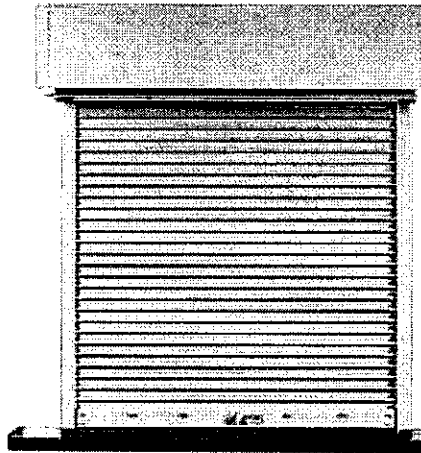

Figure 4: Example of shutter door*
- 1.7 The Clean rooms must be Installed with electrical shutter door for the class 100000 clean room. This include installation for the room which are 8 meters wide and 6 meters high (2 rooms) and for the EMC room which 5 meters wide, 6 meters high. An example can be seen in Figure 4.